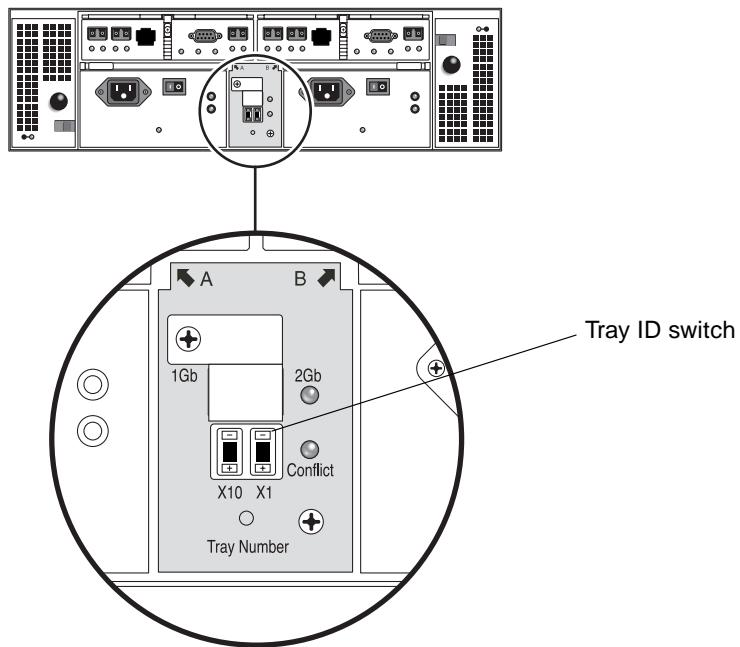

FIGURE 2-9 Tray ID Switch
1. Locate the Tray ID switch at the back of the unit, between the two power supplies (FIGURE 2-9).